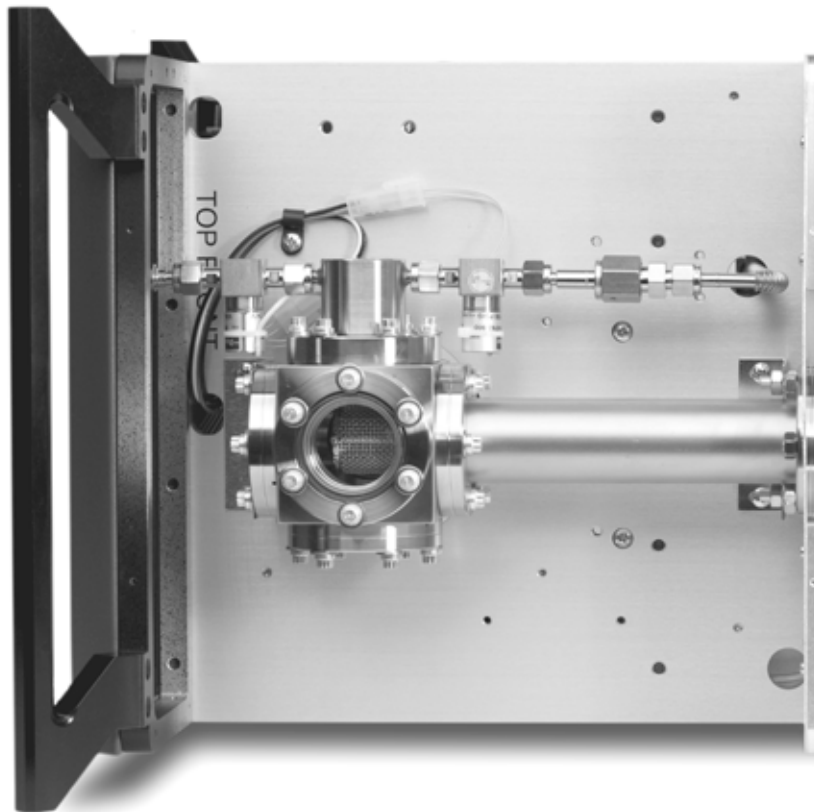

Figure 1-5. Top Front Components
In Fig. 1-5, the main chamber is shown. It consists of a sample line set, a cubic chamber, and an RGA analyzer. The sample line set is composed of 1/8"-UltraTorr connector, sample valve (SV), 40  $\mu\text{m}$  pinhole port, bypass valve (BV), and bypass line. The sample line set and the RGA analyzer connect at a 2.75" cubic chamber as shown in Fig. 1-5.